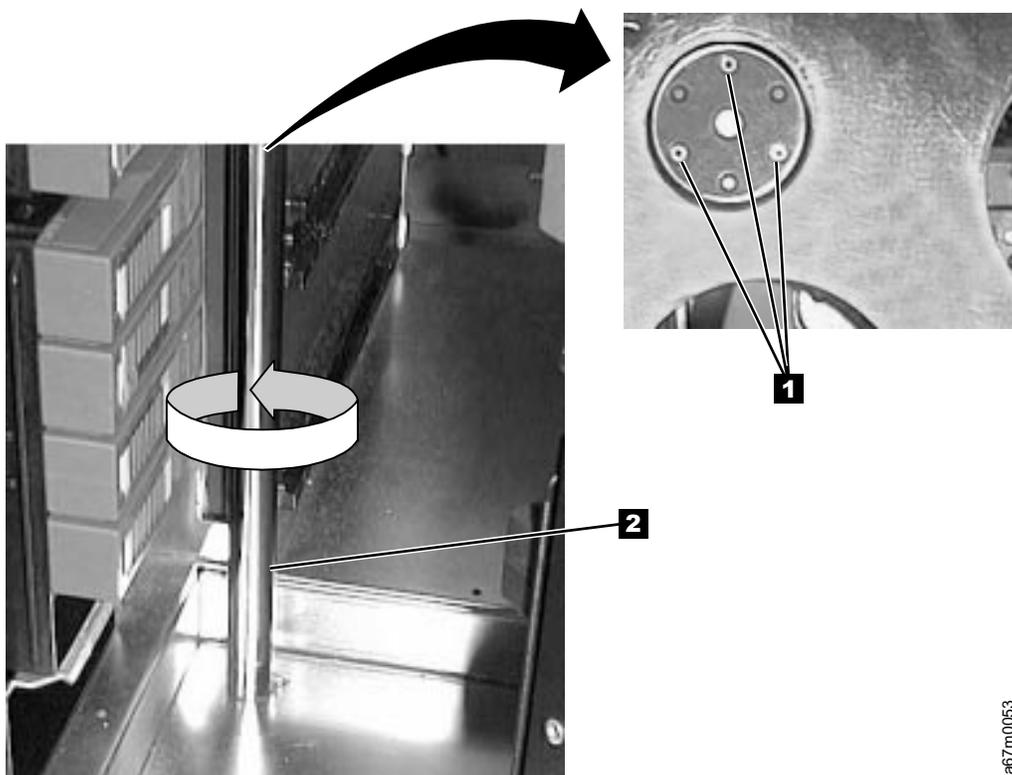

Figure 7-24. Y-Axis Drive Shaft Removal and Replacement
**Note:** If the library is installed in a rack, you must slide it out prior to performing this procedure. See Figure 7-24 for locations of components in this procedure.